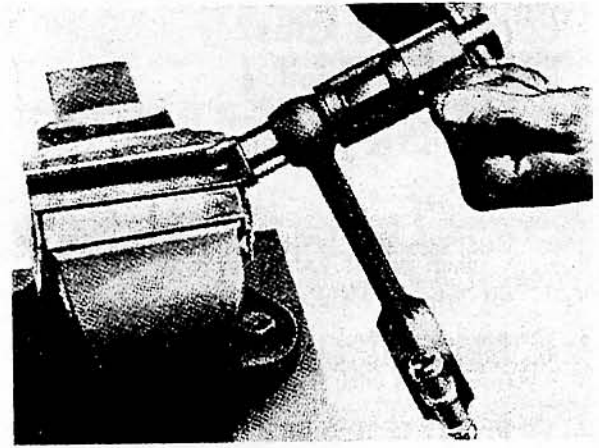

FIG. 137 RENEWING GUDGEON PIN BUSH. SERVICE TOOL MF6201 WITH ADAPTORS
1. Using Service Tool MF6201, with adaptors 9 and 10 mounted in a vice as shown in Fig. 137, remove old bush by pressing the replacement